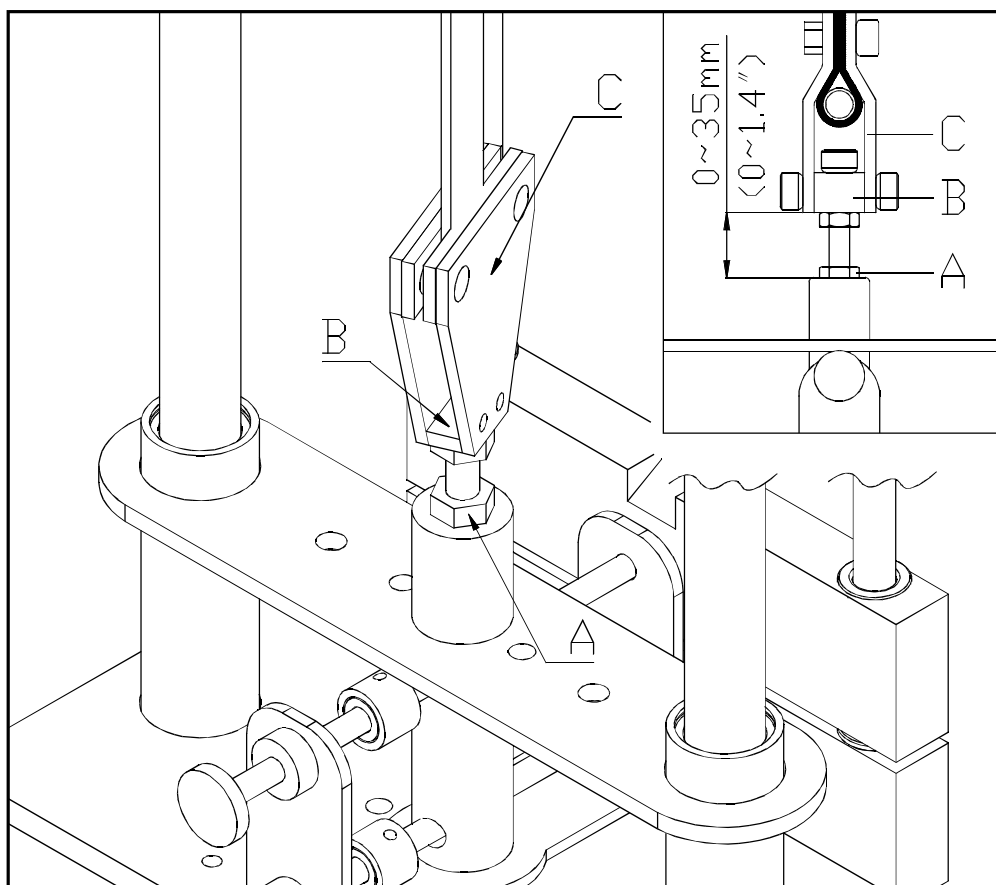

Fig.1
2. The gap between nut A and B must be within 35mm(1.4"). If the gap still exceeds the 35mm limit after the first step, please loosen the screws on C and adjust the belt to the proper length. Tighten the screws and follow the 1st step again. (See fig.1)